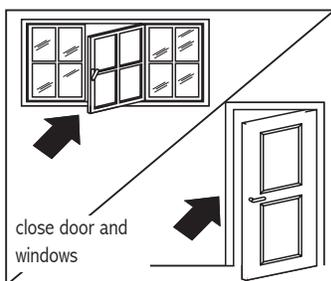

Fig. 22.
- Close the windows and doors in the room to be air conditioned (fig. 22). When installing the air conditioner semi-permanently, you should leave a door slightly open (as little as 1 cm) to guarantee correct ventilation.